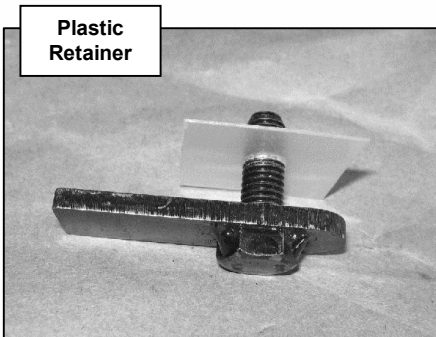

Figure 4 - 1/2" x 1.88 x 3/16" Spacer
2. From underside the driver side front of the vehicle, remove the factory body mount bolt. Remove but do not discard the rubber bushing. Install (1) 12-1.75mm x 120mm Hex Bolt with (1) 12mm ID x 32mm OD x 3mm Flat Washer and (1) 12mm Lock Washer through the Driver Side Front Mounting Bracket. Position (1) Spacer Plate between the Mounting Bracket and the factory rubber bushing, **(Figure 4)**. Slide the complete assembly up into position under the cab mounting bracket and thread the 12mm Hex Bolt into the factory mounting hole. Snug but do not tighten at this time.